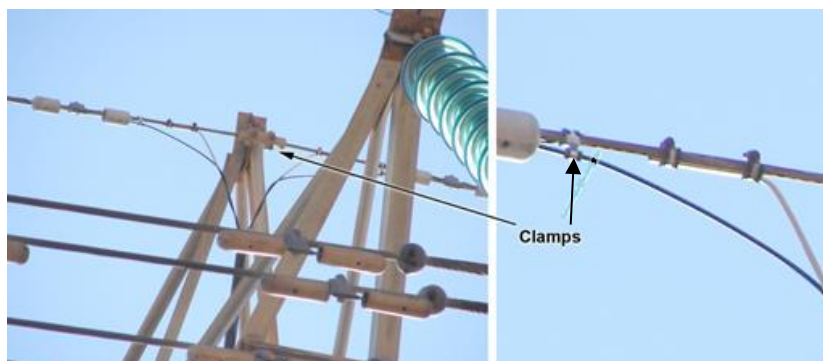

Figure 4: Clamps
- e) Visually check tower top clamps to be in place and secure, and ensure that there are three clamps on either side of the earth wire (see figure 4).